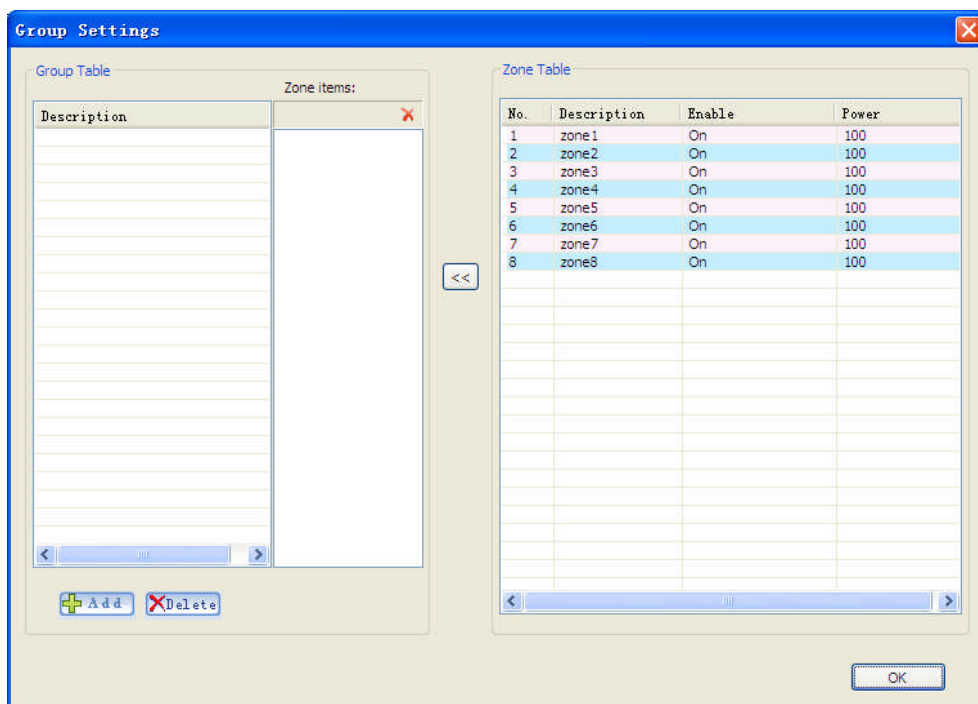

Figure 19 Group Settings window
Click Group Setting on the subsystem area on the right of the window as shown in the Figure 7, the Group Settings window displays as shown in the Figure 19.
1. Double-click the group to edit in the Group Setting window as shown in the Figure 19, the Edit Group window displays.
1. Select the groups to delete in the Group Setting window as shown in the Figure 19.